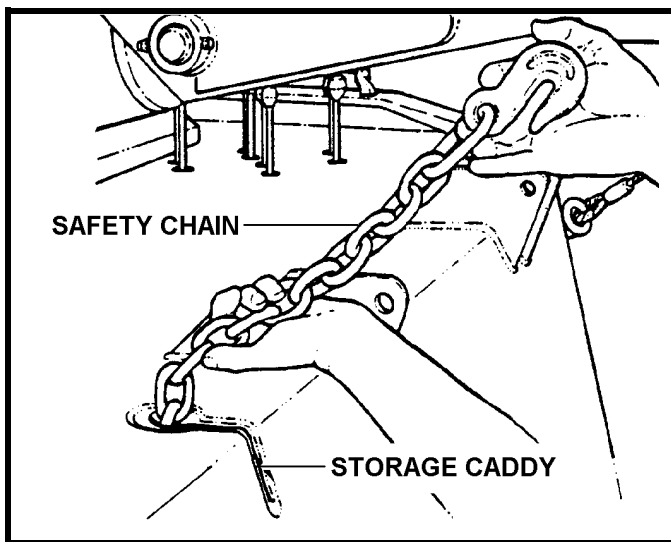

FIGURE 4.6
- (a) Extend free end of Safety Chain from storage caddy at top rear of wrecker body. See Figure 4.6.